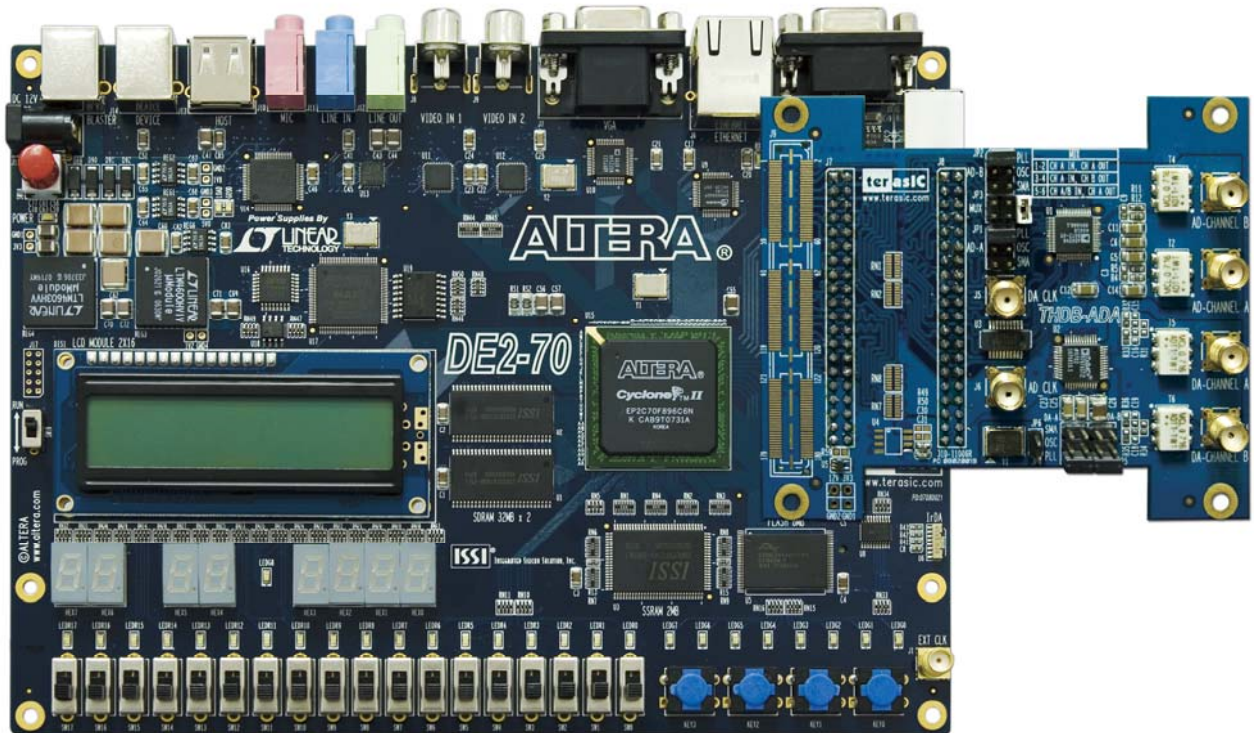

Figure 4.3 Connect ADA-GPIO with DE2-70
1. Connect the ADA-GPIO to DE2-70, as shown in Figure 4.3.